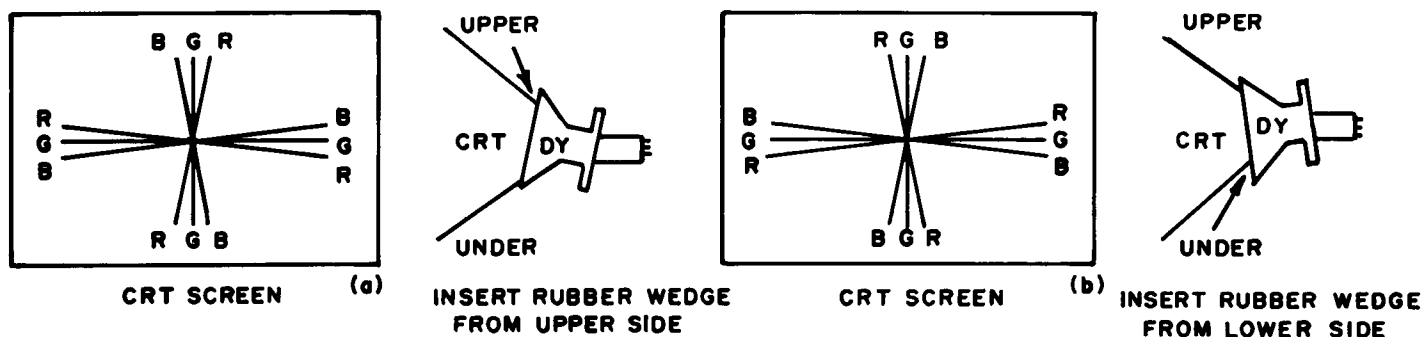

FIGURE 9
4.0 PRECISE ADJUSTMENT OF DYNAMIC CONVERGENCE (See Fig. 9 and 10)
- 4.2 Insert the temporary wedge and fix Deflection Yoke so as to obtain the best circumference convergence (See Fig. 9 and 10)
- 1) Tilting the angle of the yoke up and down adjusts the crossover of both vertical and horizontal red and blue lines. See Fig. 9 (a) and (b).